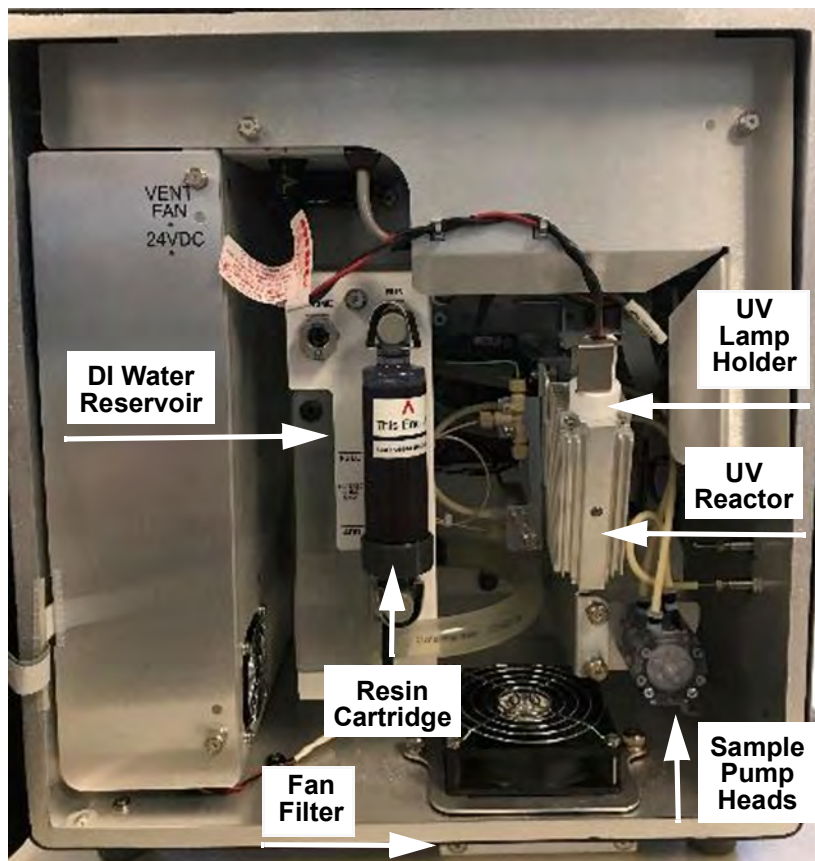

Figure 8-1: Interior Overview of the Analyzer
5. Locate the DI water reservoir. (See Figure 8-1 on page 280).
5. Locate the UV lamp enclosure at the right of the Analyzer (Figure 8-1 on page 280). The UV lamp has a red and black wire with a black connector extending from the UV Lamp Holder.
Have paper towels available during the procedure in case water leaks from the old pump heads during the removal process. Reference the Figure 8-1 on page 280, as needed.